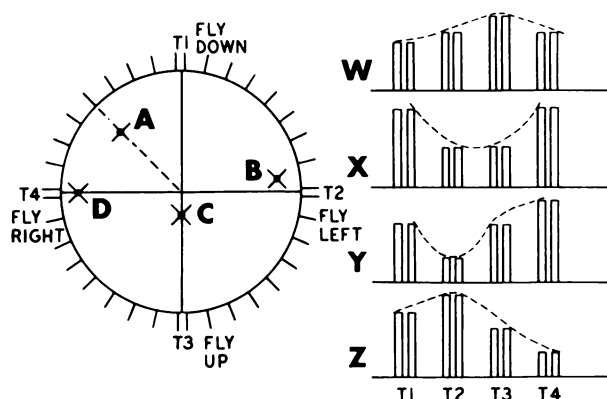

Figure 3F.
Figure 3F shown four missiles flying in different portions of the guidance beam. It also shows the set of dual pulse signals that each missile receives during a single revolution of the beam center.
31. Which set of dual pulse signals shown in figure 3F is received by missile C?
32. Which set of dual pulse signals shown in figure 3F is received by missile D?
33. Which of the missiles shown in figure 3F will NOT roll as it returns to the center of the scan axis? (Remember that up-down error signals are converted into pitch signals and left-right error signals are converted into yaw error signals.)